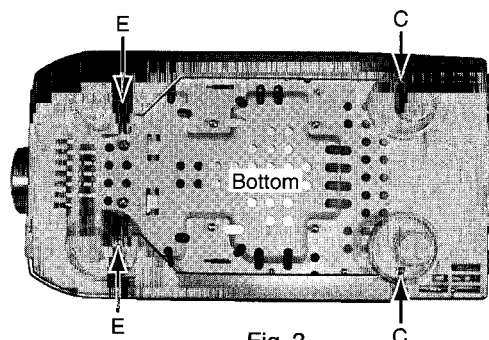

Fig. 3
3. Remove the two screws E retaining the front panel assembly from the bottom. (See Fig 3)